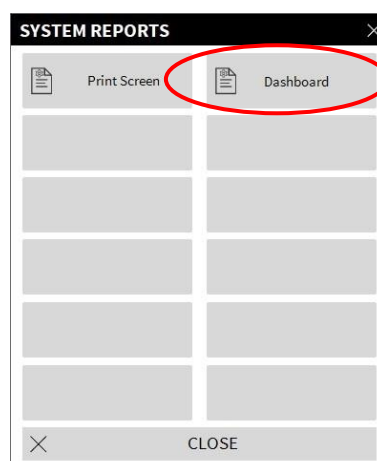

Fig 33
The following menu is displayed (Fig 33).
- Click **Dashboard** (Fig 33).